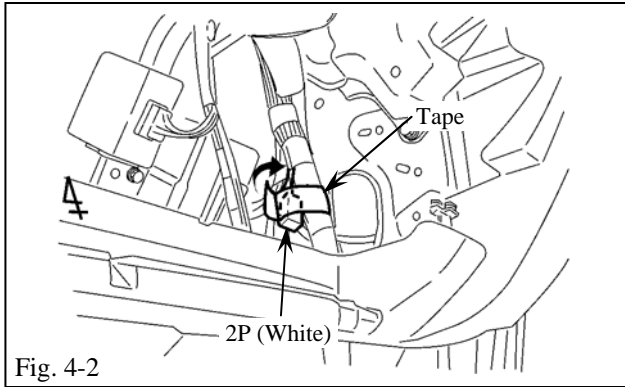

Fig. 4-2
- (c) Locate and remove the tape securing the vehicle harness' white 2P connector from the right side of the glove box area. (Fig. 4-2)